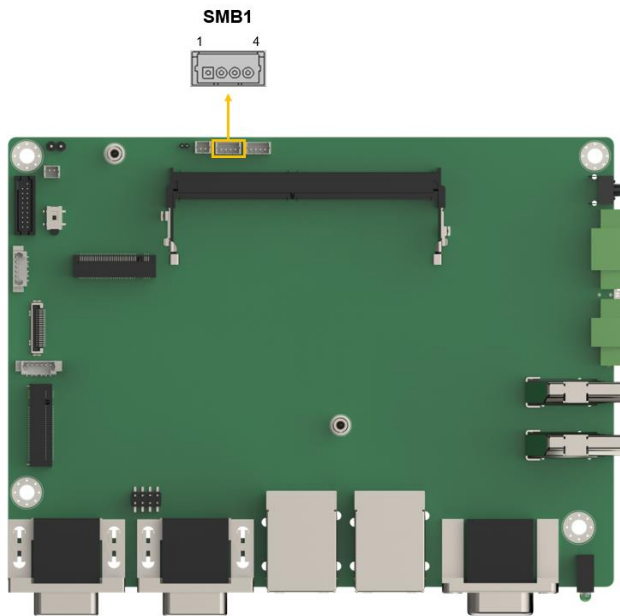

Figure 4-16: SMBUS (2.0) Connector Location
- CN Location:** See **Figure 4-16**